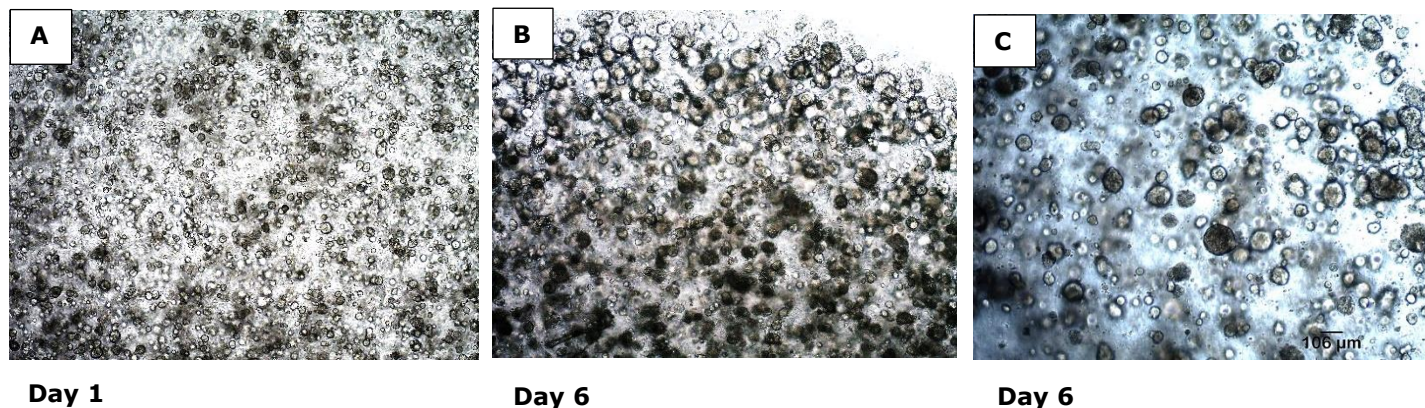

Figure 1. LPTO.54 lung organoids cultured over 6 days (A, B) show an overall increase in size and complexity. Higher magnification of LPTO.54 organoids (C).
17. Cells are passaged once the organoids have recovered and have grown in size (Figure 1). This is typically 4-7 days but may take longer during the first thaw as certain organoid lines may recover more slowly.